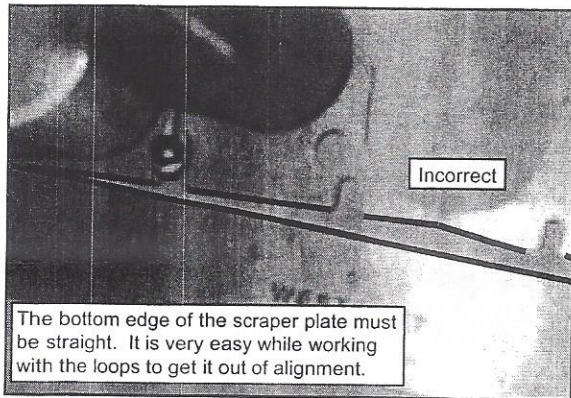

Figure 22
- See **Figures 22 & 23** to ensure the bottom edge of the scraper plate is in the correct position.
4. The baffle has a bolted on bracket at the bottom. The bracket fits over the lip of the back brick. Hold the baffle in place with your hand. Using a 5/32 Allen wrench to tighten the shoulder bolt by turning clockwise as shown in **Figures 22 and 23.**